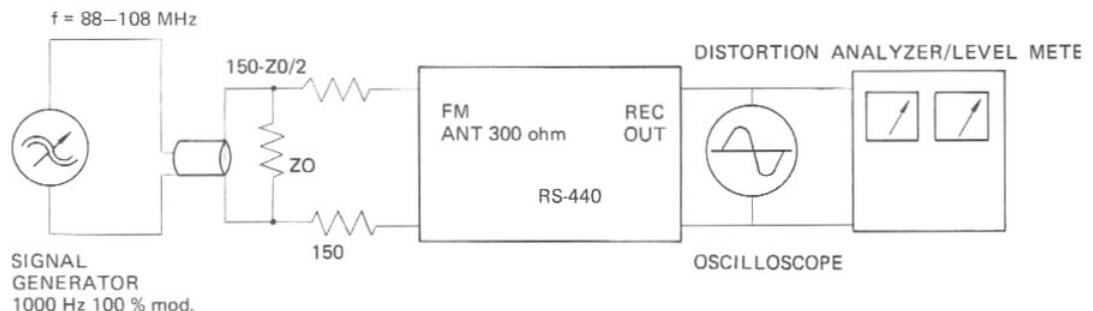

Figure 5. FM FRONT END TEST SETUP
- 2) Connect test equipment to the RS-440 as shown in Figure 5.
- 1) Connect the equipment to the RS-440 same as Figure 5.
Connect the test equipment to the receiver same as Figure 5.